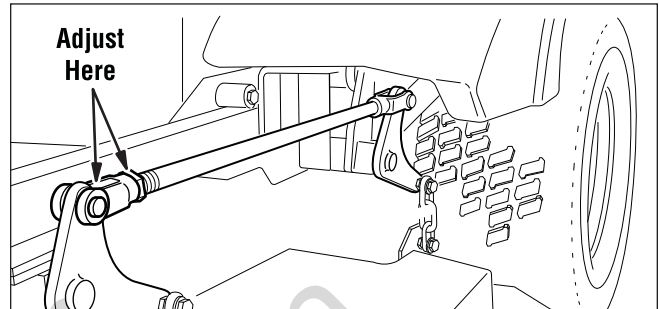

Figure 37. Adjust Lift Rod Timing
7. See Figure 37. To adjust the lift rod, loosen the jam nut on the front clevis then remove the 1/2" clevis pin fastening the clevis to the lift pivot arm. Turn the clevis clockwise to shorten the distance between the rod pivots or counterclockwise to lengthen the distance between the rod pivots. Reinstall the clevis on the lift pivot arm and secure with the 1/2" clevis pin previously removed. Tighten the jam nut against the clevis.